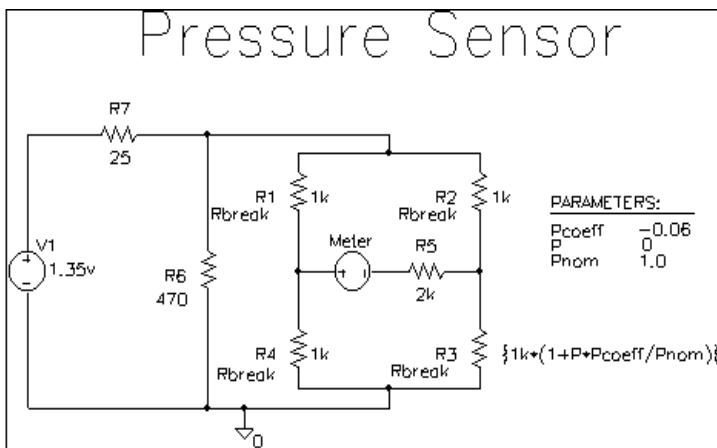

Figure 80 Pressure sensor circuit.
To begin, construct the bridge as shown in Figure 80.
Define the part values as shown in Figure 80. For the pressure sensor, you need to do the following:
- 2 Type the new value. Depending on the resistor you are changing, set its value to one of the following (refer to Figure 80).